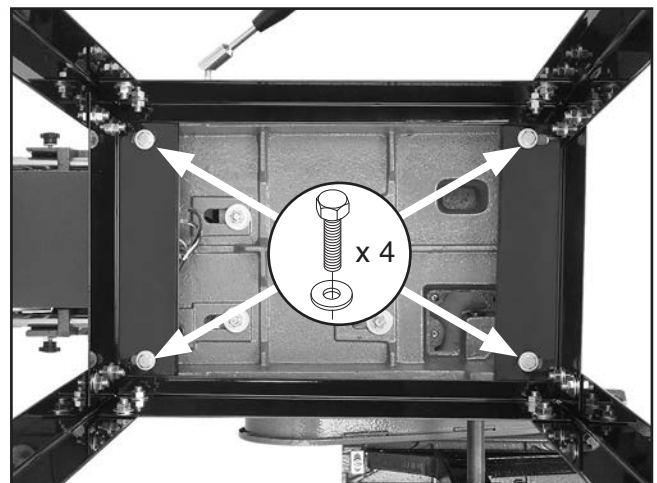

Figure 25. G1014Z sander fastened to stand (view from underneath stand).
- Secure the sanding unit to the stand or cabinet with (4) $\frac{5}{16}$ "-18 x $\frac{1}{2}$ " hex bolts and $\frac{5}{16}$ " flat washers, as shown in **Figures 25–26**.